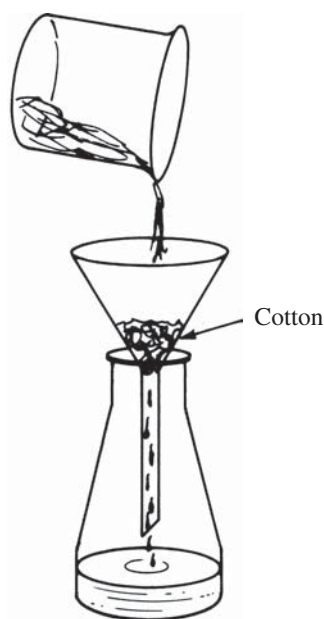

Figure 47.1
1. Pour about 60 mL of a fruit drink that you wish to analyze into a clean, dry 100-mL beaker. The fruit drink should be light colored, apple, orange, or grapefruit, but not dark colored, such as grape. Record the kind of drink on the Report Sheet (1).
2. If the fruit drink is cloudy or contains suspended particles, it can be clarified by the following procedure: Add Celite (about 0.5 g), used as a filter aid, to the fruit drink. After swirling it thoroughly, filter the solution through a glass funnel, bedded with a large piece of cotton. Collect the filtrate in a 50-mL Erlenmeyer flask (Figure 47.1).